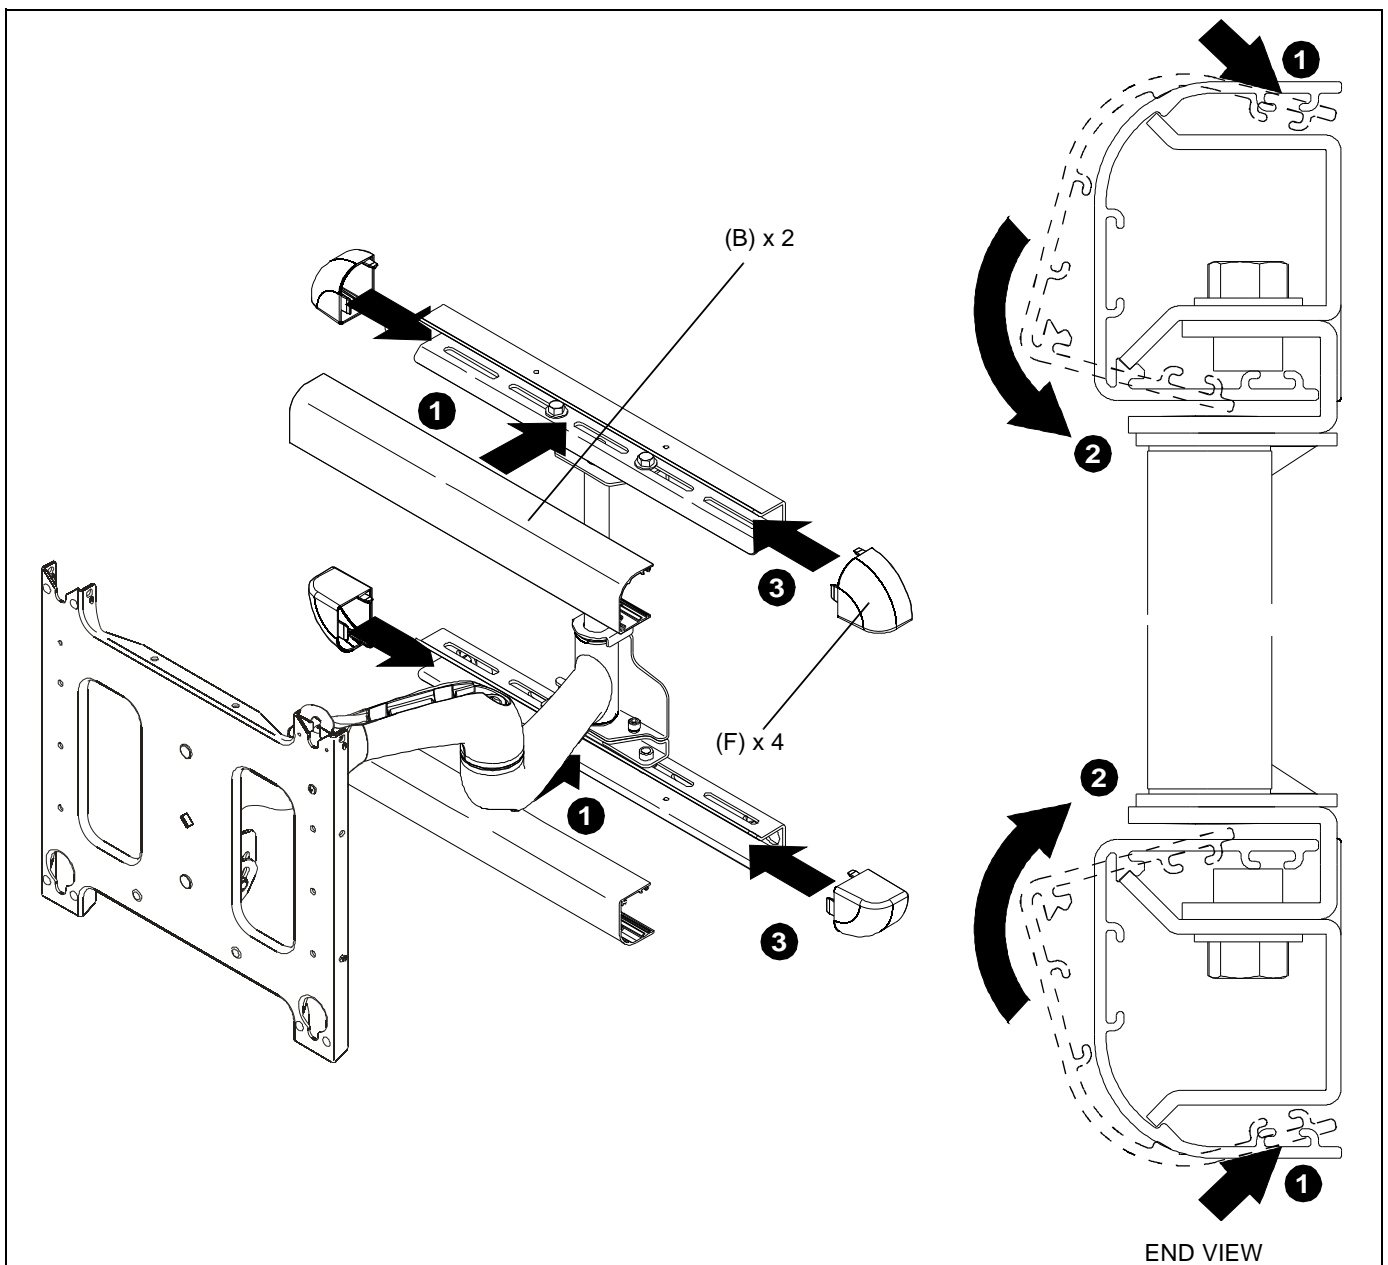

Figure 5
1. Install upper and lower wall channel covers (B) by tipping cover top down and positioning as shown in end view of figure below. (See Figure 5)
2. Tap firmly across bottom of channels (B) to lock in place as shown in figure below. (See Figure 5)
3. Install R.H. and L.H. end caps (F) by aligning tabs on end caps (F) with slots in wall channel covers (B) and sliding tabs in until end caps (F) are flush with wall channel covers (B). (See Figure 5)